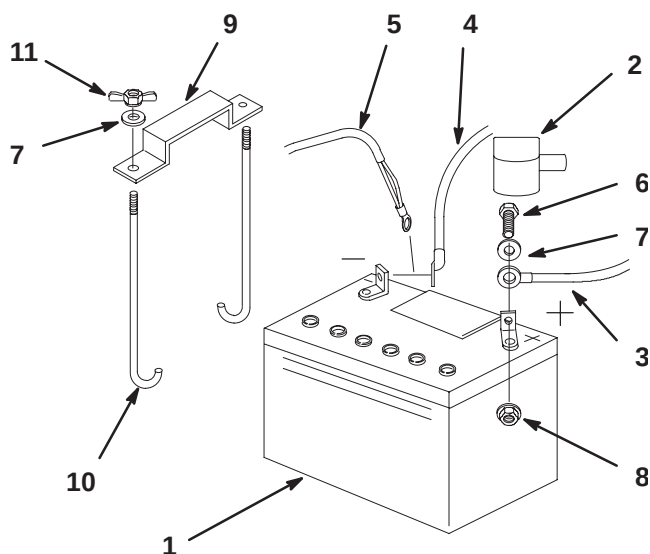

Figure 53
1. Position battery in tray with terminal posts toward the engine (Fig. 53).
4. Secure cables with 2 bolts (1/4 x 3/4 in.), 2 washers (1/4 in.), and 2 locknuts (1/4 in.) (Fig. 53).
6. Secure battery with J-bolts, hold down clamp and 2 washers (1/4 in.), and 2 wing nuts (1/4 in.) (Fig. 53).
3. First disconnect the negative battery cable and ground wire from the negative (–) battery terminal (Fig. 53).
4. Slide the red terminal boot off the positive (red) battery terminal. Then remove positive (red) battery cable (Fig. 53).
5. Remove both wing nuts (1/4 in.) securing the battery clamp (Fig. 53).